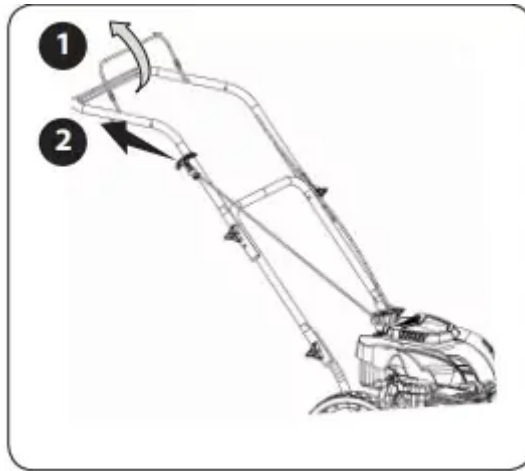

Figure 5-2
1. Press the priming pump one or two times and depress control lever. See Figure 5-2 ① and pull the starter rope to start the engine. See Figure 5-2 ②